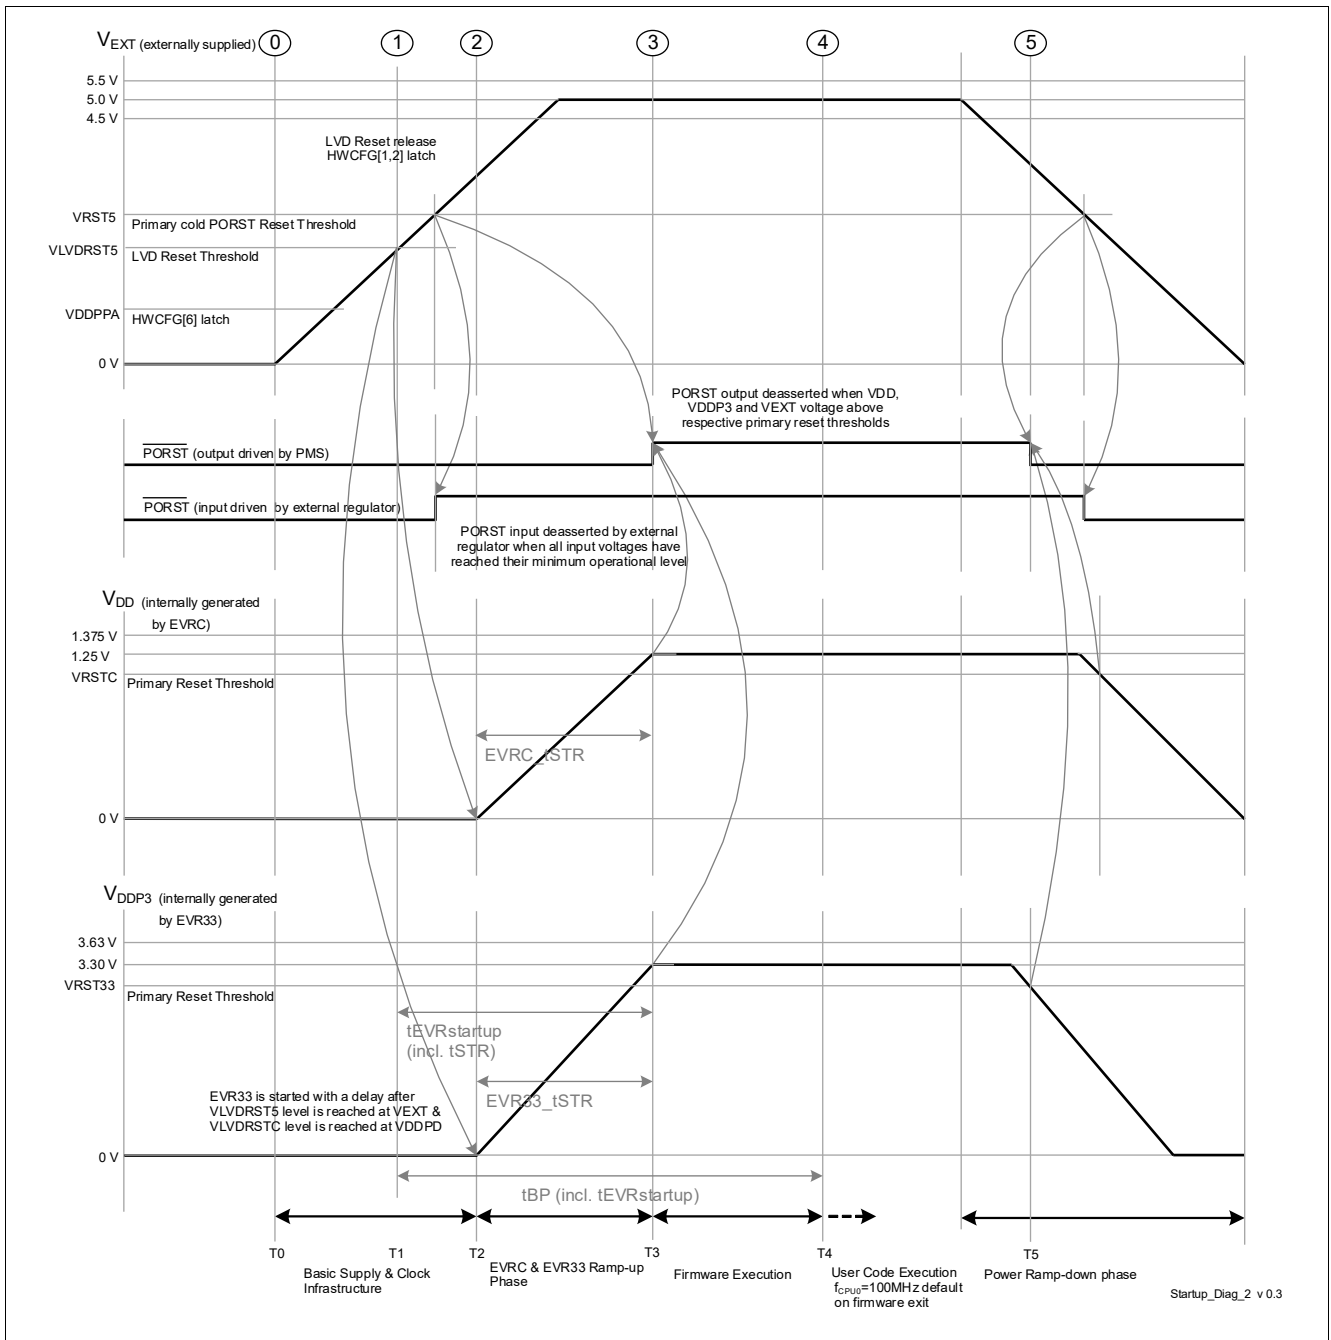

Figure 3-3 Single Supply mode (a) - VEXT (5 V) single supply
- The power sequence as shown in Figure 3-3 is enumerated below